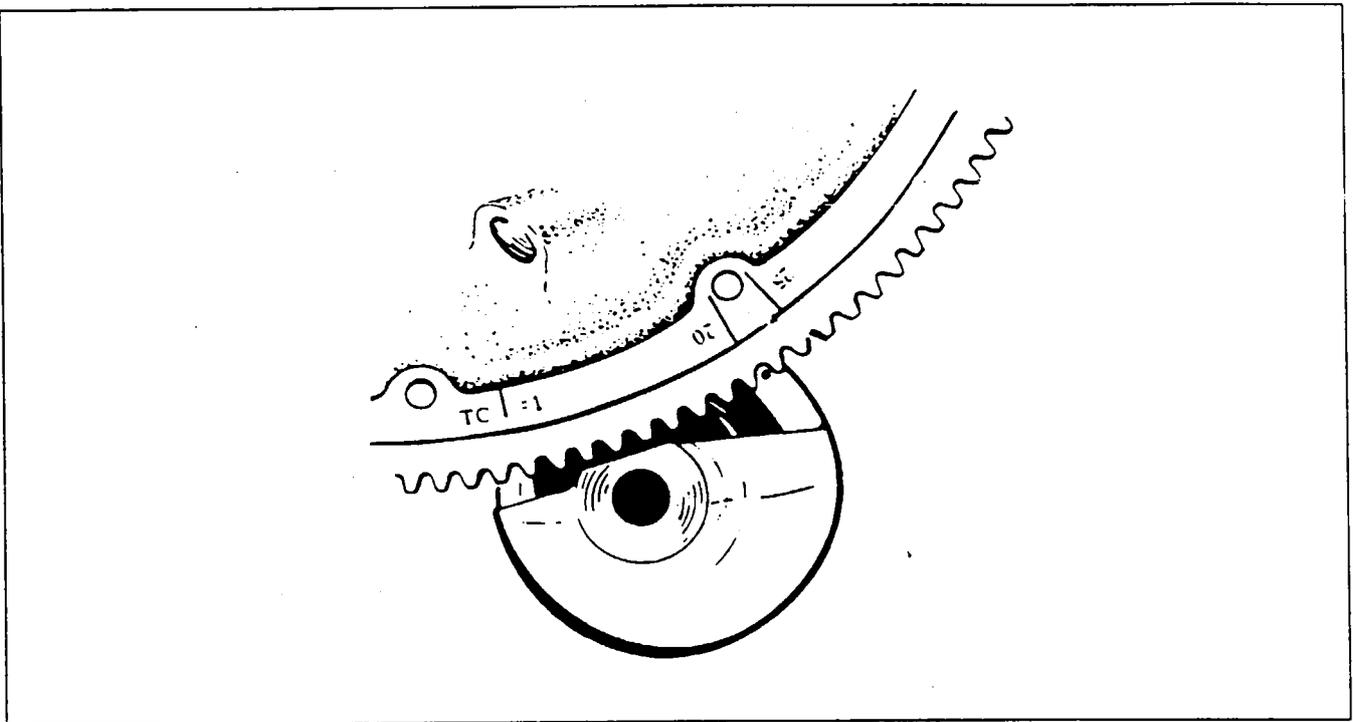

Figure 74-3. Engine Timing Marks
5. Continue turning the crankshaft until the 20° advance timing mark is in alignment with the small hole located on the top face of the starter housing at the two o'clock position. ( Refer to Figure 74-3.)